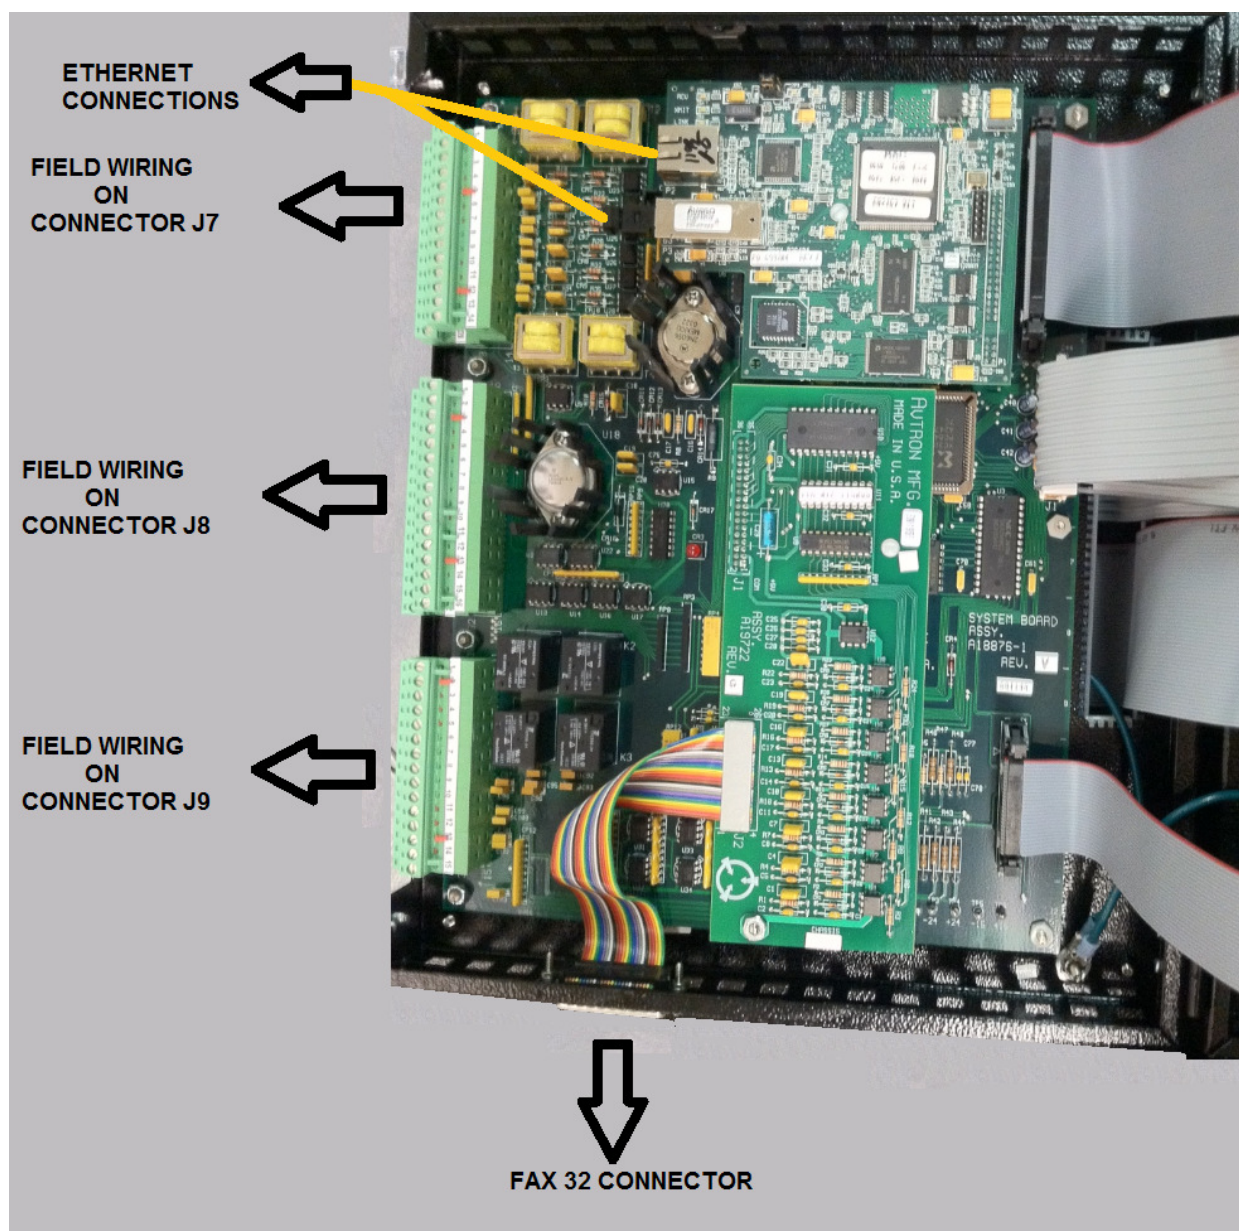

Figure 12-2. ADDvantage-32 electronics enclosure shows the field wiring to be disconnected.
3. Remove all field wiring and field connectors from the ADDvantage-32 electronics enclosure as shown in Figure 12-2. The field wiring can include the Ethernet cable (either fiber optic or copper-twisted pair wiring) to the Ethernet expansion module, the DB25 connector at the bottom of the electronics enclosure providing connections to the FAX32, and/or the removable terminal blocks (J7, J8 and J9) on the system board. Note that all wiring that is removed will directly connect to the ADDvantage-32 PLUS without any change or modification.